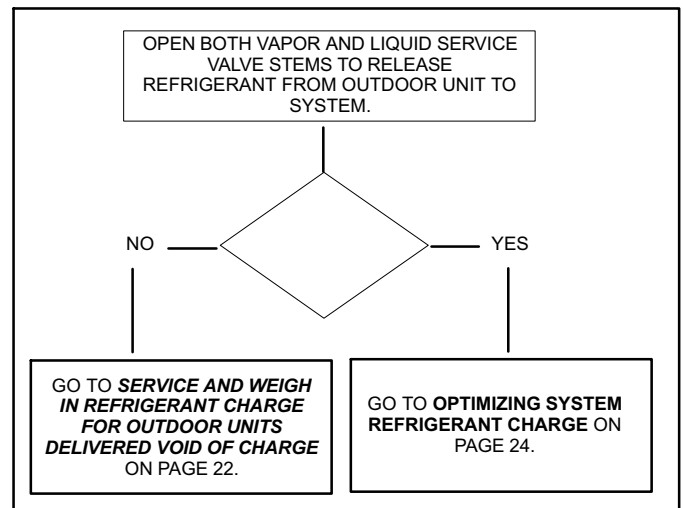

Figure 16. Outdoor Unit Factory Charge
7. Use figure 16 to determine next step in system preparation.